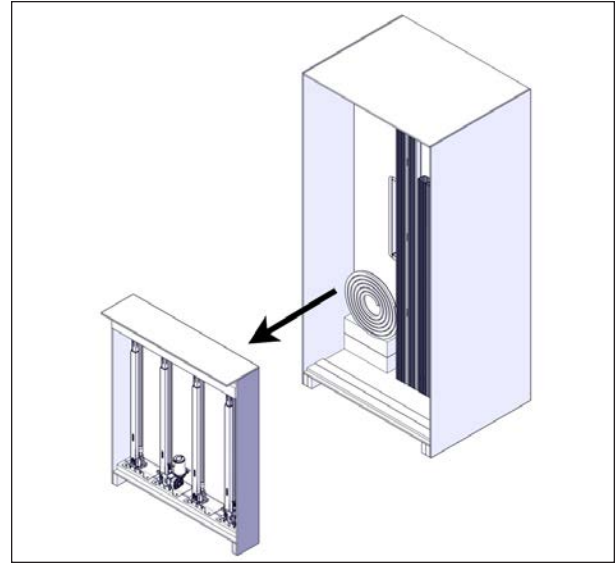

FIGURE 21: JACK BOX REMOVAL
11. With the help of another person, remove the jack box from the crate and keep it in a safe location, see Figure 21.